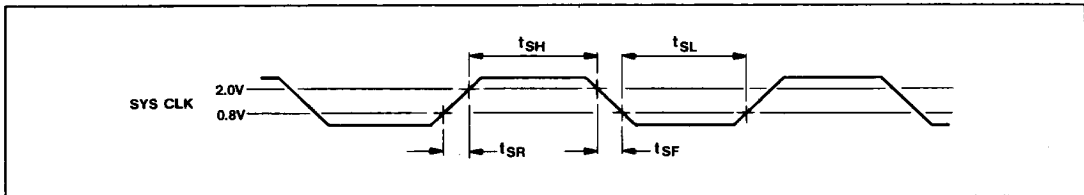

Fig.7 Timing - system clock
**Digital Switching Characteristics - System Clock (see Fig.7)**